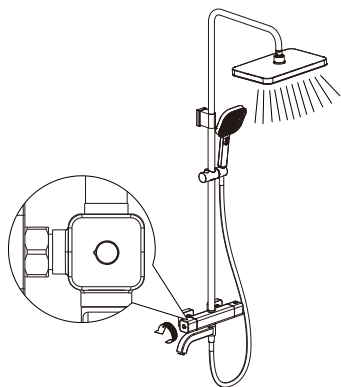

Figure 14C
- ③ Rotate the diverter handwheel 90° counterclockwise from the closed position to switch to shower head mode. (Shown in Figure 14C)